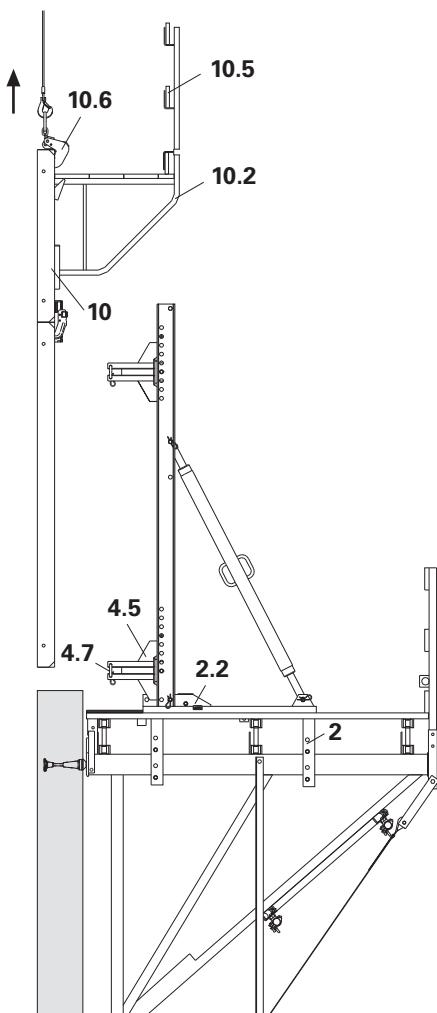

Fig. B2.20
1. Retract Carriage (2) and secure with wedge (2.2), see B4.1. Brace strongbacks laterally.
2. Fix MAXIMO Lifting Hook (10.6) to the formwork unit (10) and then attach lifting gear.
5. Raise formwork and remove (e.g. storage area). (Fig. B2.20)